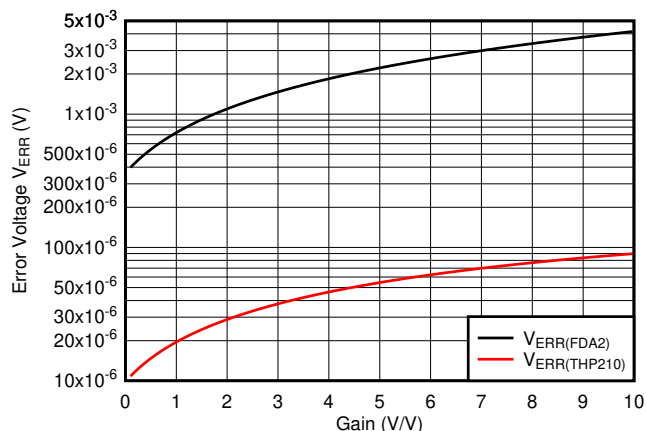
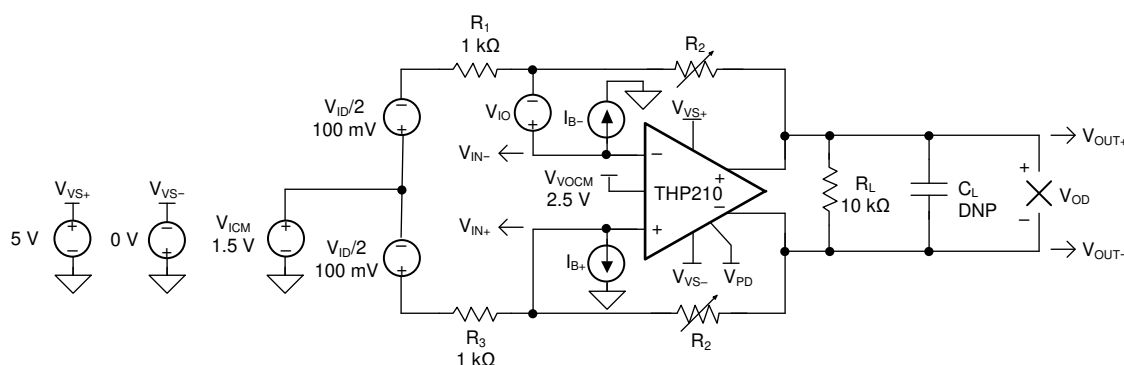

Figure 9-1. TINA-TI™ Software Simulation of DC Error Voltage at Different Gain Settings (Variable R_2)
Figure 9-2. FDA DC Error Model
The THP210 super-beta input device features extremely-low input bias current, trimmed low input offset voltage, and the lowest offset drift over the full temperature operating range. These features allow the device to produce a negligible initial error band at 25°C, but also exceptional robust behavior over temperature. The red curve in Figure 9-1 showcases a simulation of the total dc error voltage at 25°C versus different gain configurations based on the application configuration shown in Figure 9-2.
- Circuit configuration as shown in Figure 9-2